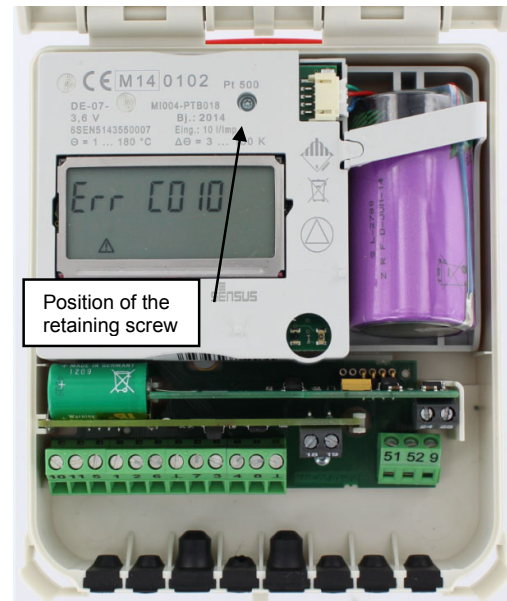

Figure 17: Removing the retaining screw for the module
- Before the supply battery is removed, the calculator module must be removed from the calculator unit. For this, open the cover of the calculator unit and remove the right retaining screw (screwdriver: Torx 6) under the plastic cover (user seal, refer to Figure 17).